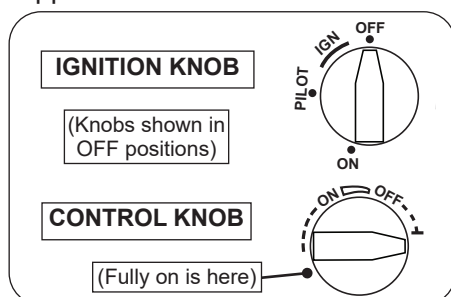

Fig. 27-1 Ignition and control knobs
2. Locate the valve on the unit. Push in the ignition knob slightly and turn clockwise ↻ to **OFF** (see Fig. 27-1).
5. While still holding the knob in, turn the knob counterclockwise ↺ to **PILOT** until you hear a click (piezo igniter will activate and light pilot). Continue to hold the knob in for about one (1) minute after the pilot is lit. Release the knob and it will pop back out. The pilot will remain lit. See Fig. 27-1 and 27-2. If it goes out, repeat steps 2-5.
1. Ensure the pilot is burning. Turn the ignition knob counterclockwise ↺ to **ON** (see Fig. 27-1).
2. Turn the control knob counterclockwise ↺ to the fully ON position to ignite the burner (see Fig. 27-1). The valve will open and the burner will light.
**To shut down the main burner (pilot will remain lit),** turn the control knob clockwise ↻ to the fully OFF position (see Fig. 27-1).
**To shut down the burner and pilot (total shutdown),** turn the control knob clockwise ↻ to the fully OFF position, and push in the ignition knob slightly and turn clockwise ↻ to **OFF** (see Fig. 27-1).